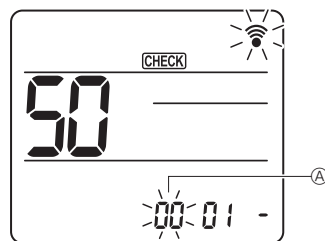

Fig. 7-18
- ② Setting the unit number
Press the [DOWN] button to set unit number ④. (Fig. 7-18)